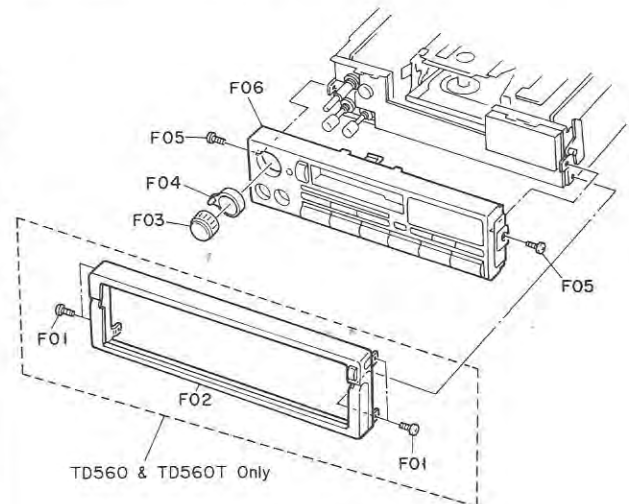

Fig. 2.2
2.2. Handle Ass'y and Front Panel Ass'y Refer to Fig. 2.2.